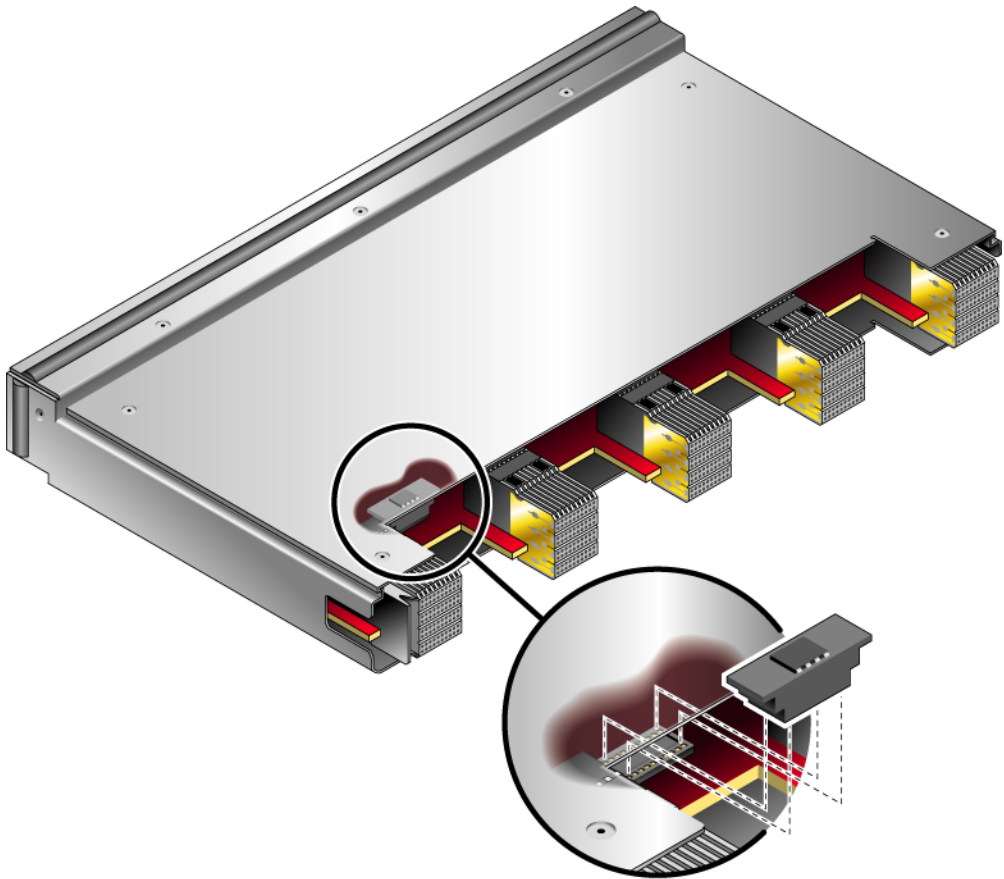

FIGURE 2-7 Installing the ID Chip
4. Install the ID chip onto the new board (see FIGURE 2-7).